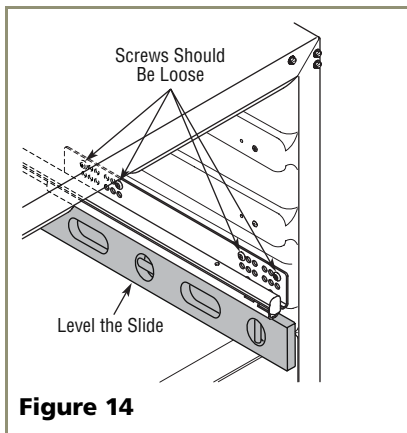

Figure 14
3. Retighten the screws (see **Figure 14**).